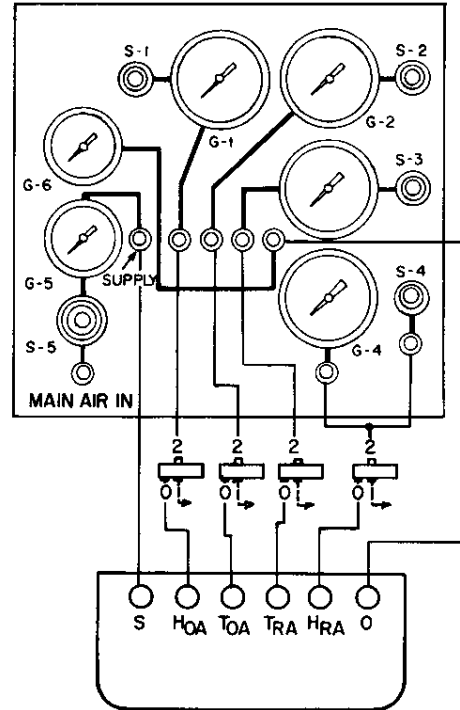

Fig. 5: N-9000 Setup
1. Connect the N-9000 to the calibration kit as illustrated in Fig. 5. The C-5226s are required to isolate the signals from the calibration kit.